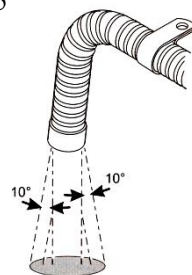

Fig.26
4.6.6 When the heat is working, the exhaust pipe is at high temperature. In installation, make sure to install it in far distance from plastic parts or other objects with poor thermal resistance of the vehicle body. The exhaust pipe shall be properly fixed. The exhaust vent shall be downwards, perpendicular to road surface with an angle of $90^\circ \pm 10^\circ$. To ensure such an angle, the fixing clamp for the exhaust pipe shall be within 150mm from the pipe end. (Fig. 26)